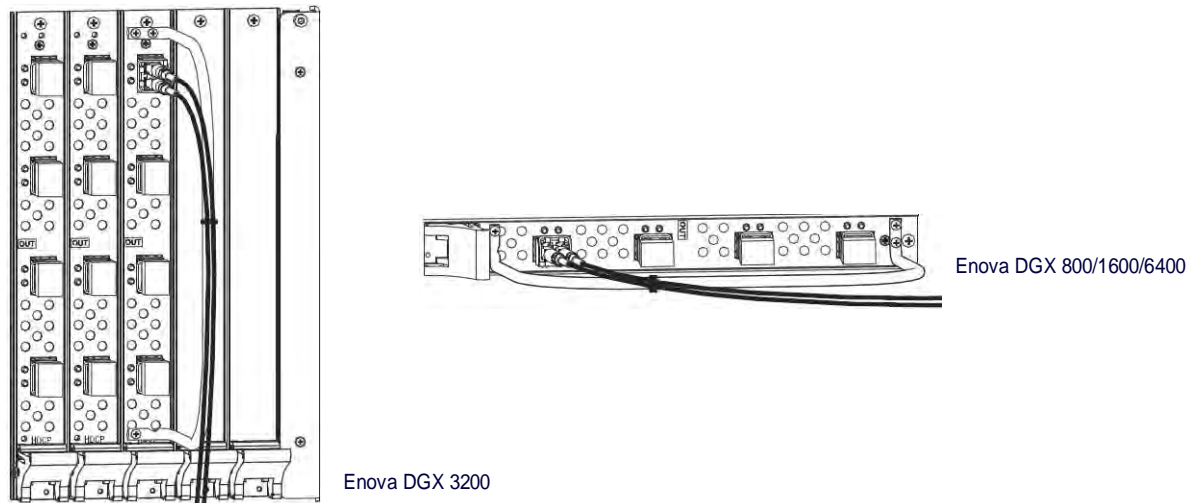

FIG. 73 Attach cables to input and output connectors (shown with cable management bar)
4. Tie the DXLink fiber cable to the cable management bar far enough below the connector to allow for the manufacturer's recommended bend radius (FIG. 73).